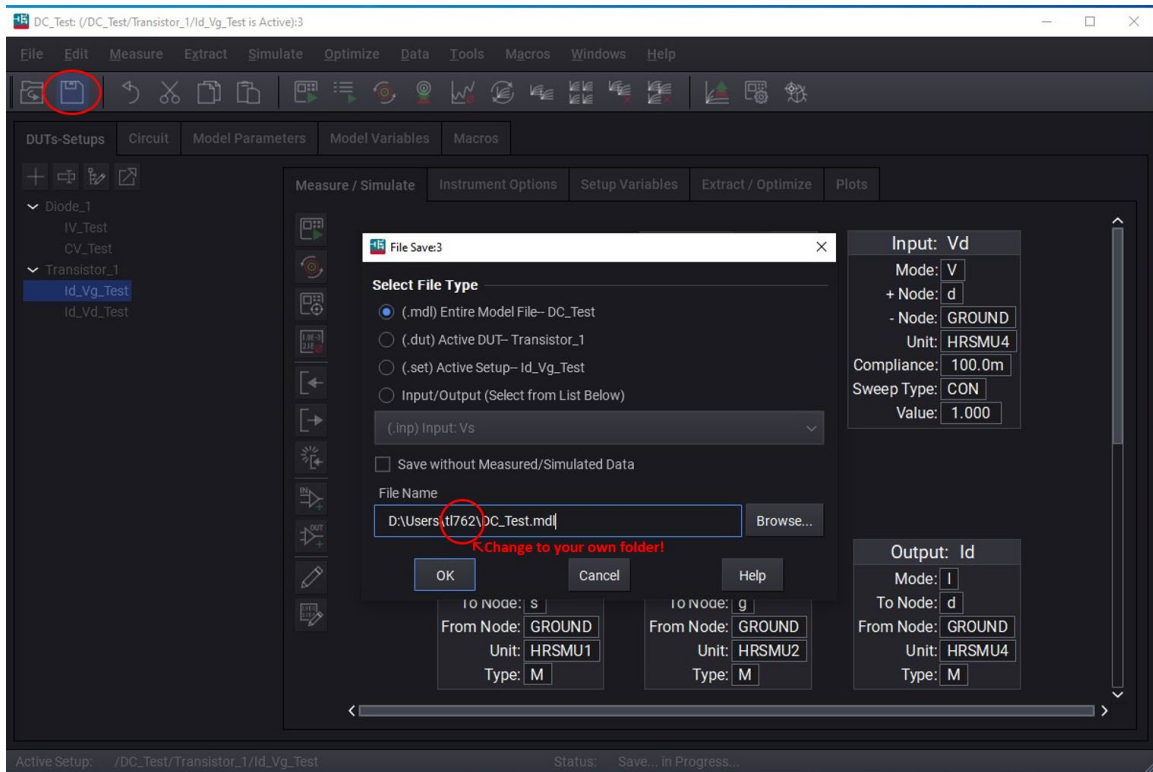

Fig. 3.10. Saving a DC_Test project.
- 3.14 **Make sure your project is saved on the PC!** IC-CAP will not auto-save your project. To do so, click on  on the top menu of the "DC_Test" home screen. (You could also click on "File" as in Step 3.11. This illustrates the many ways IC-CAP skins a cat.) Fig. 3.10 pops up. It is recommended the "Select File Type" remains ".mdl" but "File Name" points to your own folder. Click on "OK" to save the project. if no more measurement will be done, exit IC-CAP by closing all windows. Leave the PC on.